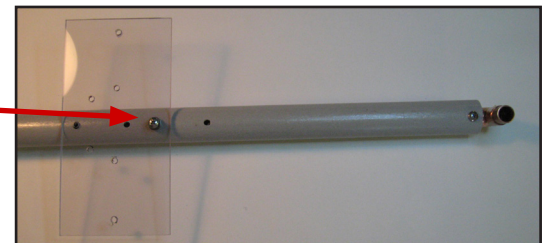

Fig. 49
- Select an Element Mounting Plate and position over the Boom End Assembly as shown in Fig. 49. Then select one (1) 10-24 x 2" Machine screw and one (1) No. 10 SS Flat washer. Place the washer on the screw. Then insert the screw and washer through the top Element Mounting Plate. Insert the screw in the Boom End Assembly through the 2nd hole as indicated in Fig. 49.